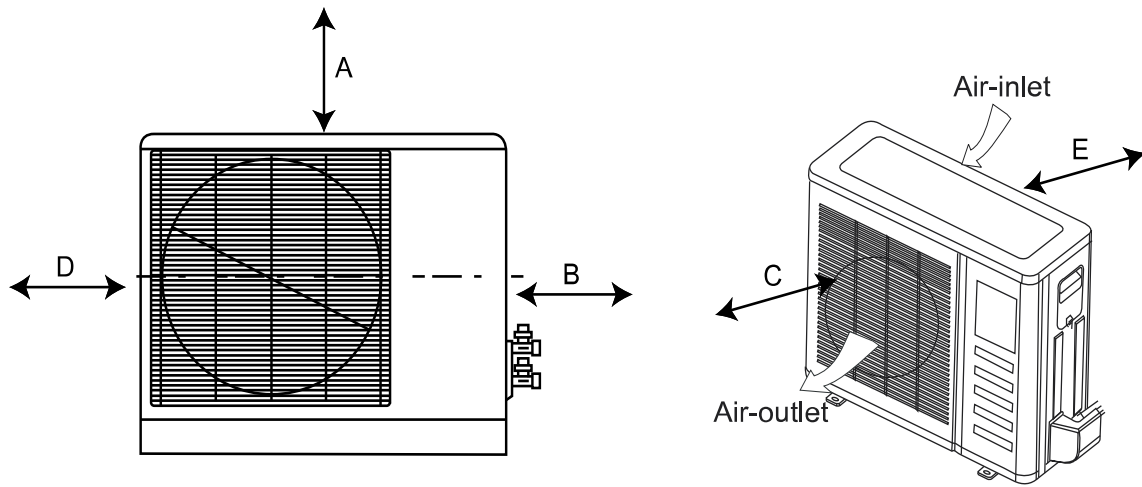

Fig. 8 — Clearances
- A location with appropriate clearances as outlined (see Fig. 8 — on page 8).